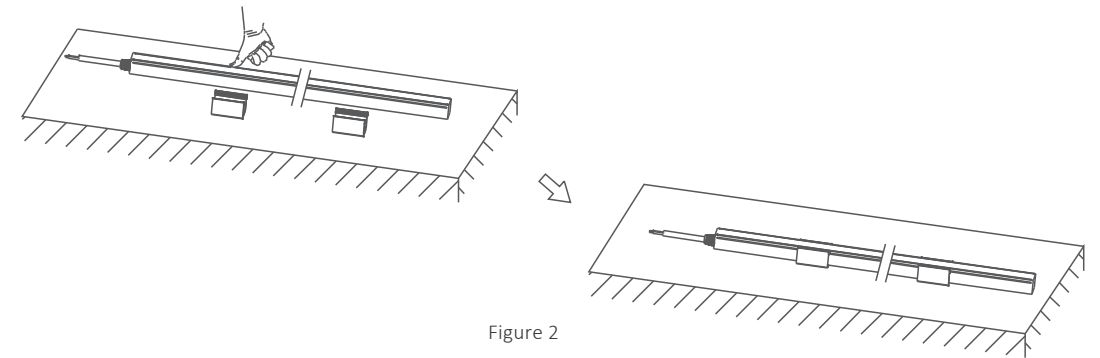

Figure 2
2. Install the neon flex into the clip, installation completed, as shown in Figure 2